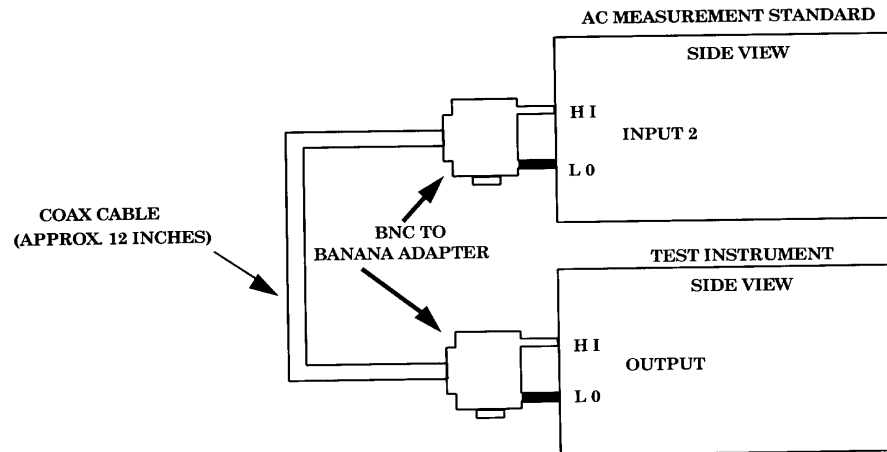

Figure 10. Ac voltage (2 mV through 1000 V)
(1) Place ac measurement standard on top of TI and connect equipment as shown in figure 10. Press **INPUT 2** pushbutton on ac measurement standard.